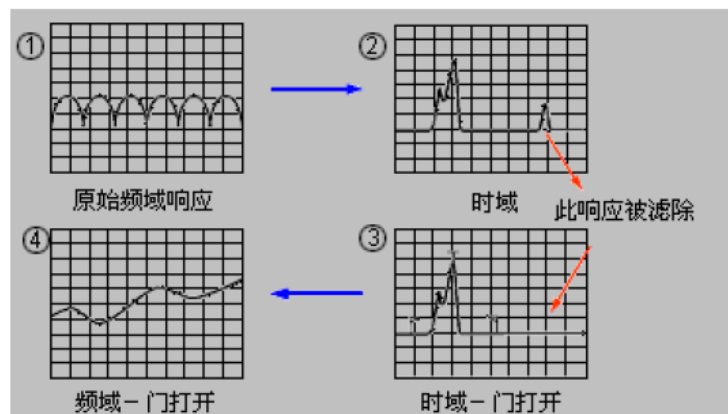

Fig. 2.10 Measurement Application of Band-pass Time Gate
- 4) Close the time domain transformation function. Observe the frequency domain response of the tested device to understand the influence of the removed response on the measurement result. Fig. 2.10 shows the measurement application of the band-pass time gate.